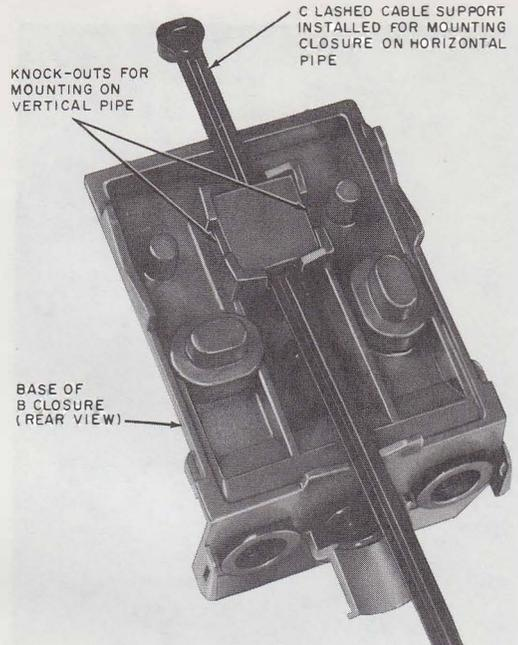

Fig. 27—Installation of C Lashed Cable Support on B Customer Service Closure
3.34 When the B closure is mounted on a pipe, it should be attached with a C lashed cable support (Fig. 27). It will be necessary to break